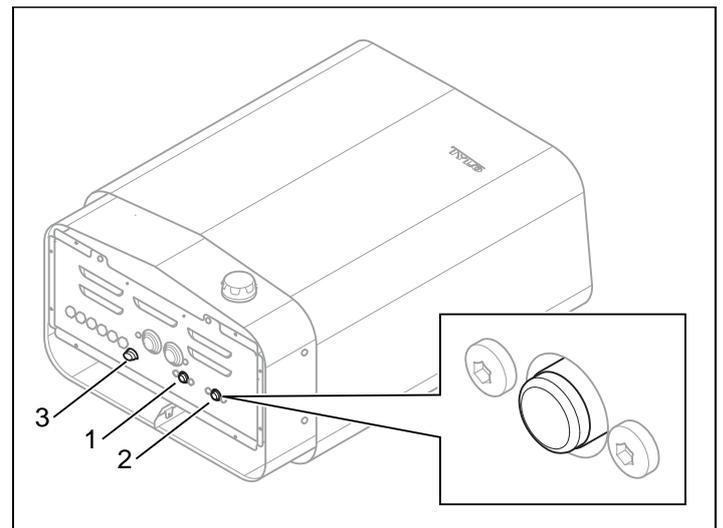

Figure 9: Resetting the temperature cut-out
- **Water reservoir** - The temperature cut-out in the reservoir is designed to protect the heater element from boiling dry. There is a red reset button under the heater which must be pressed in (see Fig. 9). If the cut-out has activated, the button will feel stiff and will 'click' when reset. If the cut-out has not activated and after resetting, the button will feel springy.
- **Heater** - The temperature cut-out in the heater is there to protect the components, pipe elements and woodwork in the sauna from overheating. There is a red reset button under the heater which must be pressed in (see Fig. 9). If the cut-out has activated, the button will feel stiff and will 'click' when reset. If the cut-out has not activated and after resetting, the button will feel springy.